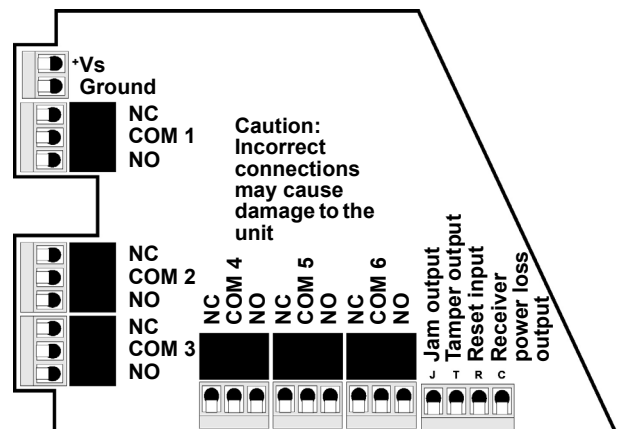

Figure 4 EN4216MR terminals
7. Connect a momentary switch to the reset input and ground (Figure 4, "EN4216MR terminals"). Must be configured for UL installations.
See Figure 4, "EN4216MR terminals" on page 2.	Line Power Loss